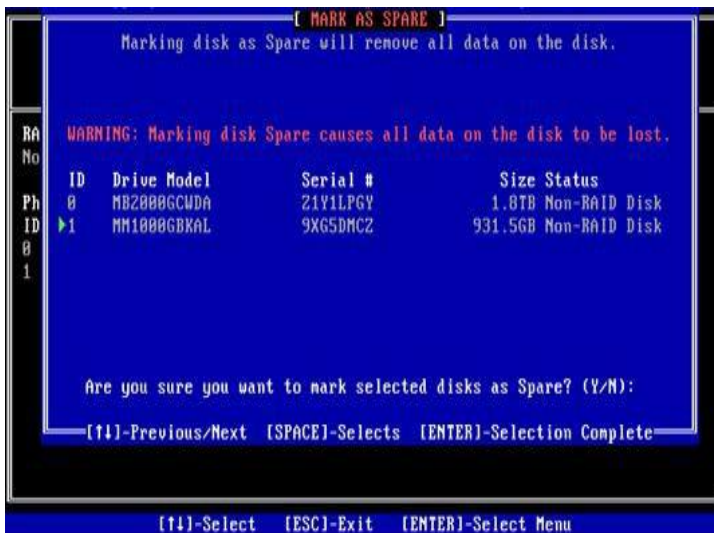

Figure 6-21
- c) Enter the interface shown in Figure 6-21, select the disk to be configured as a hot spare disk and press SPACE to select it, then press Enter, in the prompt bar that appears, enter y and press Enter to complete the hot spare disk configuration.
✧ Figure 6-21 Select Disk